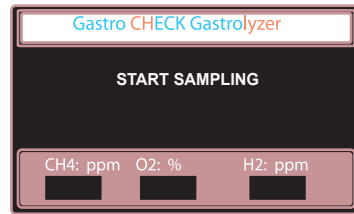

fig.11
9. Make a note of these values manually or automatically using GastroCHART™ and push the "breath sample" button to return to the home "Dormant" screen. (fig. 11 overleaf)